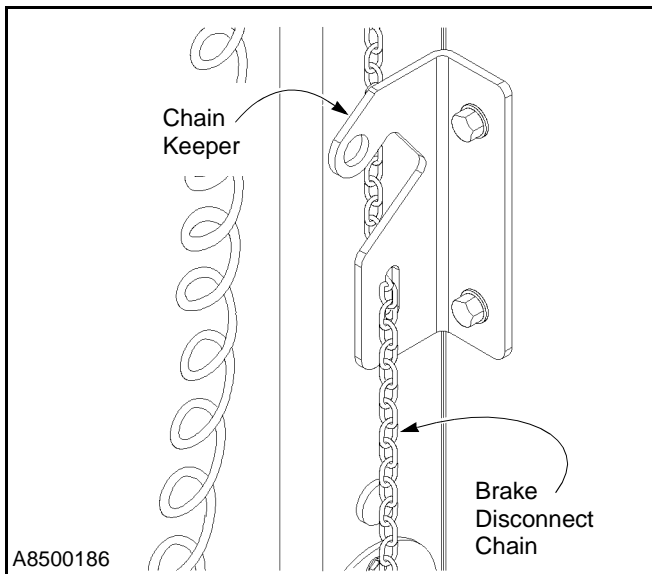

Figure 25
1. Disconnect the motor brake by pulling and locking the brake disconnect chain. To lock the chain, hook it over the chain keeper. (See Figure 25.)